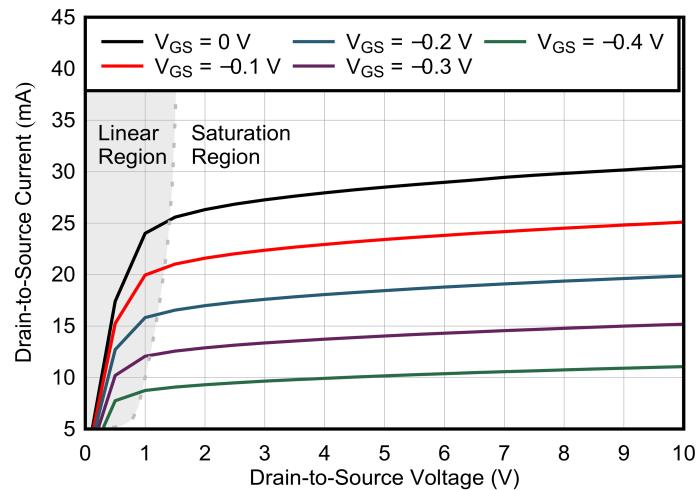

图 8-1. V_{DS} vs I_{DS}
- For $V_{GS} > V_{GSC}$: Two modes of operation can exist depending on V_{DS} . When V_{DS} is less than the linear (saturation) region threshold (see 图 8-1), the device operates in the linear region, meaning that the device behaves as a resistor connected from drain-to-source with minimal variation from any changes in V_{GS} . When V_{DS} is greater than the linear (saturation) region threshold, I_{DS} has a strong dependance on V_{GS} , where the relationship is described by the parameter gm .